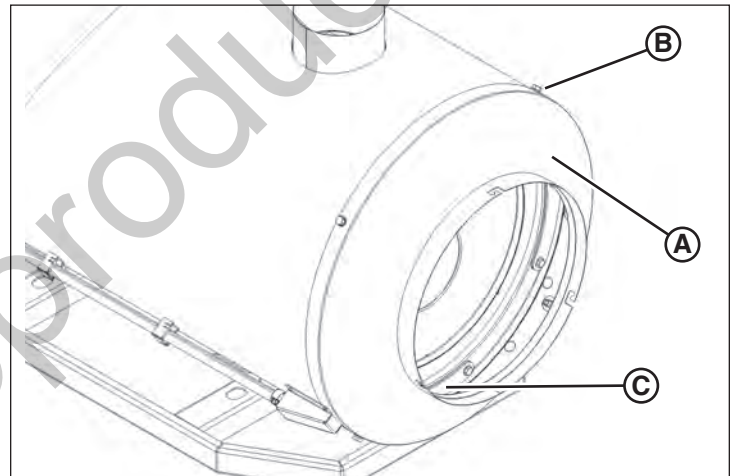

Figure 48
1. Remove the air outlet cone (A, Figure 48) by removing the screws (B) that secure it to the heater unit.
3. Locate the curved plate (C, Figure 48) at the bottom of the combustion chamber. Remove the screws that hold the plate, and remove the plate and gasket.